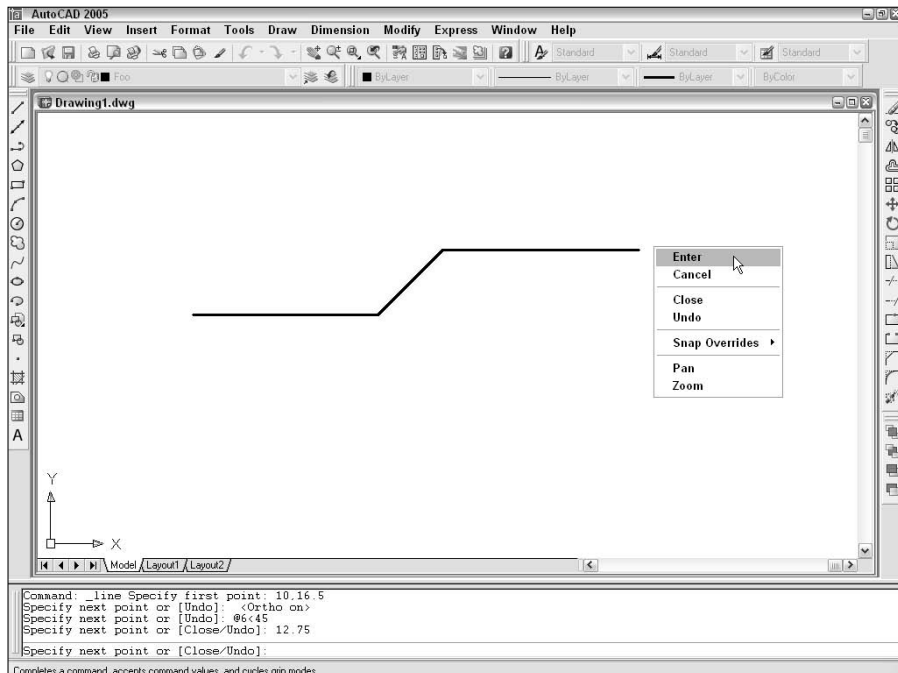

Figure 5-1:
- Press Enter, or right-click anywhere in the drawing area and choose Enter (as shown in Figure 5-1), to leave the figure open.